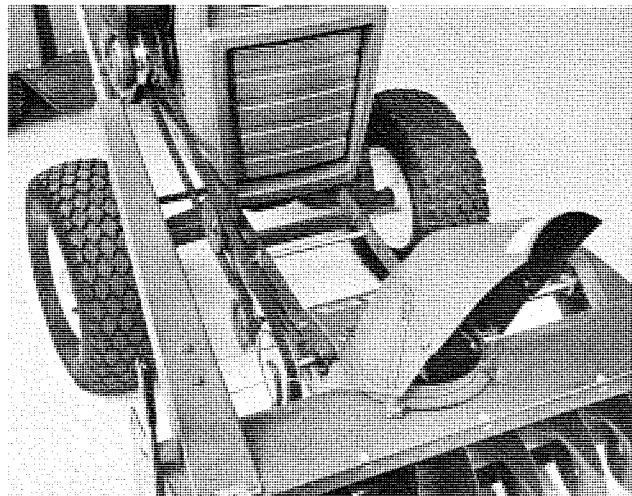

Figure 3
7. Remove the $8\frac{1}{2}$ inch long rod and spacer from the mounting frame. Roll the unit up to the tractor. Align the mounting frame so that the arms of the mounting frame straddle the tractor frame. See Fig. 3. Roll the snow thrower back into the tractor to allow the belt to be placed over the attachment clutch and into the belt groove.
Roll the snow thrower forward till the holes in the mounting arms align with the first set of holes of the tractor frame. Turn wheels all the way to the left. Insert the rod and spacer through the mounting frame and tractor frame. Hold in place with the $\frac{3}{8}$ -16 nylok nut. See Fig. 3.
8. Wrap the belt around the idler pulleys as shown in Fig. 3. **NOTE: Adjust blower drive pulley in or out to align with the idler pulleys, tighten set screws.**